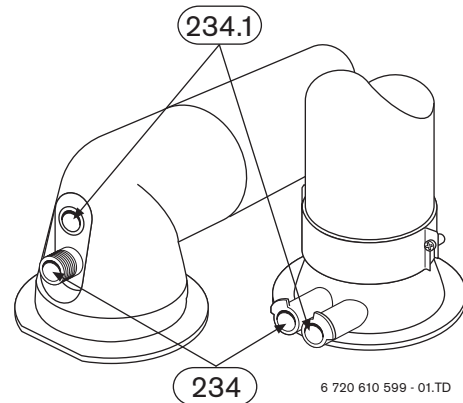

Fig. 44
- ▶ Remove sealing plug from combustion air testing point (234.1, fig. 44).
- ▶ Remove sealing plug from flue gas testing point (234, fig. 44).